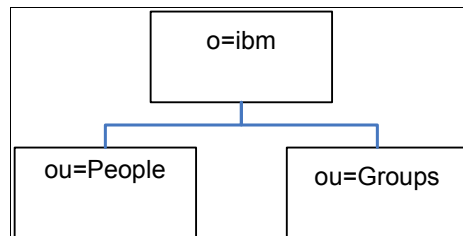

Figure 4-8 Default directory information tree created by the **mksecldap** command
4. Creates the base DN (`o=ibm` in this example). The directory information tree that will be created in this example by default is shown in Figure 4-8.